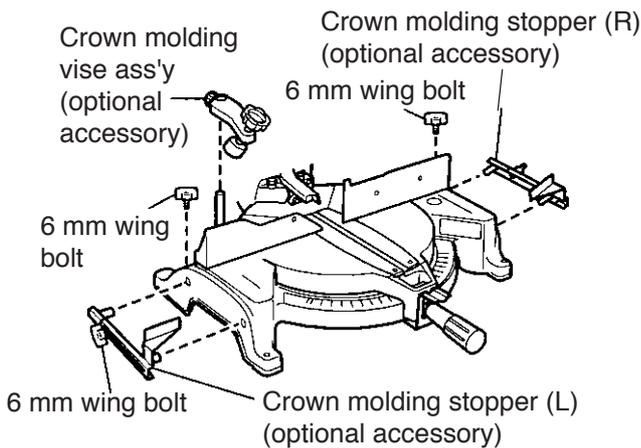

Fig. 19
- (1) Crown molding stoppers (L) and (R) (optional accessories) allow easier cuts of crown molding without tilting the saw blade. Install them to both sides of the base as shown in Fig. 19. After inserting, tighten the 6 mm knob bolts to secure the crown molding guides. [ Optional accessories used ]
- Crown molding vise ass'y (including crown molding stopper (L))
- Crown molding stopper (L)
- Crown molding stopper (R)